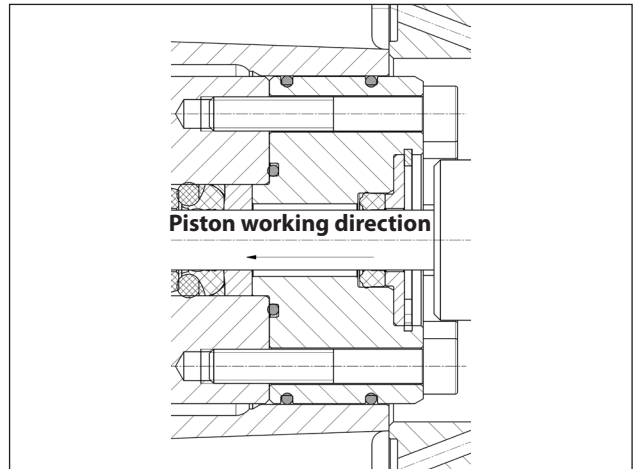
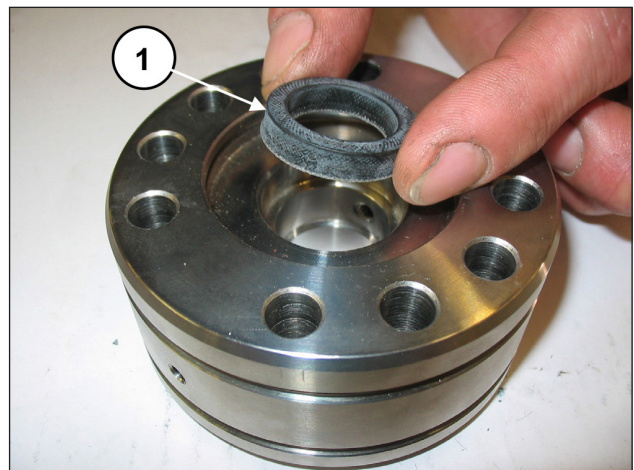

Fig. 125
Fig. 126
The L.P. seal must be inserted in the liner with the lip seal in the direction of piston operation (pos. ①, Fig. 125 and Fig. 126), slightly lubricating the external diameter with OKS 1110 silicone grease. Replace the L.P. seal whenever wear is detected.